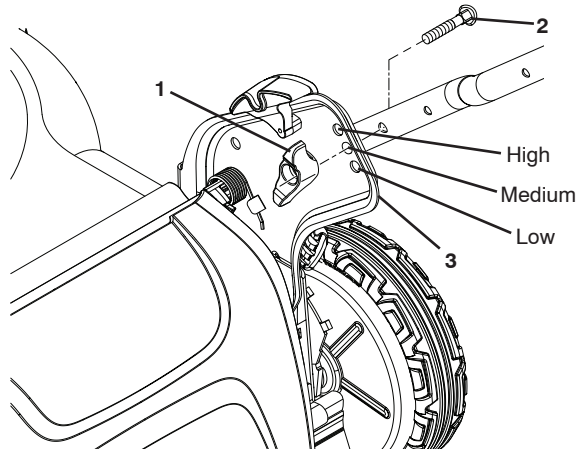

Figure 28
1. Remove knob and carriage bolt on one side of the lower handle (Figure 28).